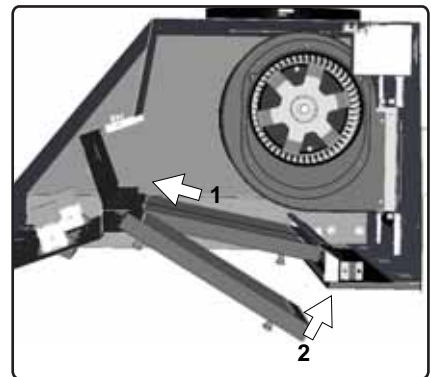

FIG. 6
**Installing the Baffle Filters, FIG. 6:**